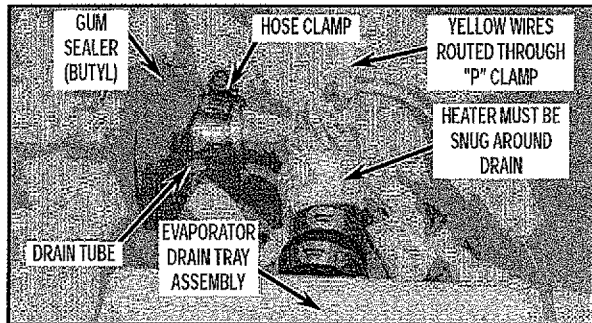

FIGURE 5
10. Hook up the drain tube. Do not tighten the clamp that is included with the kit. See *Figure 5*.
11. Seal around the drain tube going through to the compressor side, using gum sealer (Butyl) included in kit. See *Figure 5*.
12. Reconnect the yellow wires going to both of the heaters on the tray. See *Figure 5*.